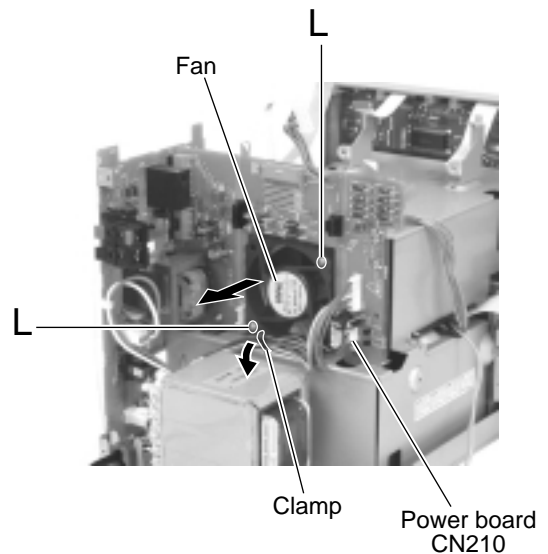

Fig.20
4. Remove the two screws **J** attaching the IC bracket (1) on the back of the heat sink, and remove the power amplifier 1.
5. Remove the three screws **K** attaching the IC bracket (2) on the back of the heat sink, and remove the power amplifier 2.
■ Removing the fan (See Fig.20)